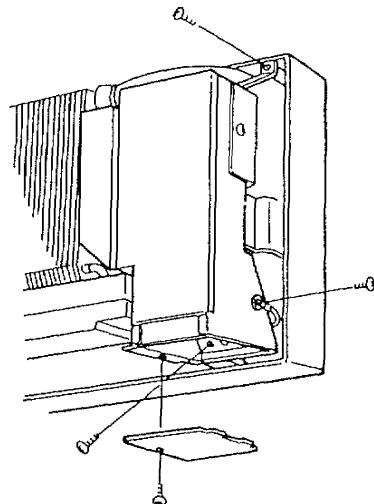

Fig. 3
- b) Remove four screws. Fig. 3